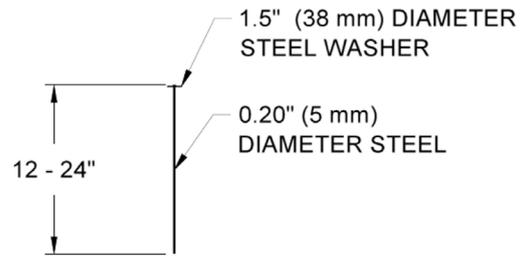

Figure 6: Securing Pin
- Washer pins should be made of steel with a 0.20 in (5 mm) minimum diameter, having a 1.5 in (38mm) diameter washer at the head, and a length between 12 in and 24 in (300 mm - 600 mm) with sufficient ground penetration to resist pullout (Figure 6).